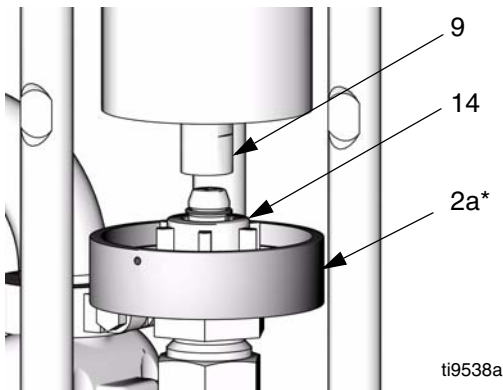

FIG. 2. Position Collector
6. Jog motor to move slider piston (9) up, giving adequate clearance to fit collector (2a*) between slider cylinder and piston rod.
7. See FIG. 2. Position the collector (2a*) over the coupling nut (14) and drop it down onto the pump piston rod.